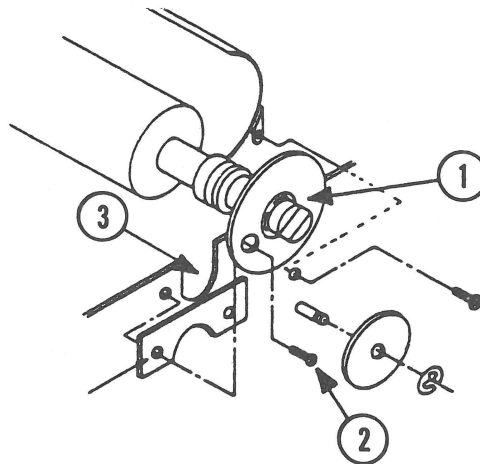
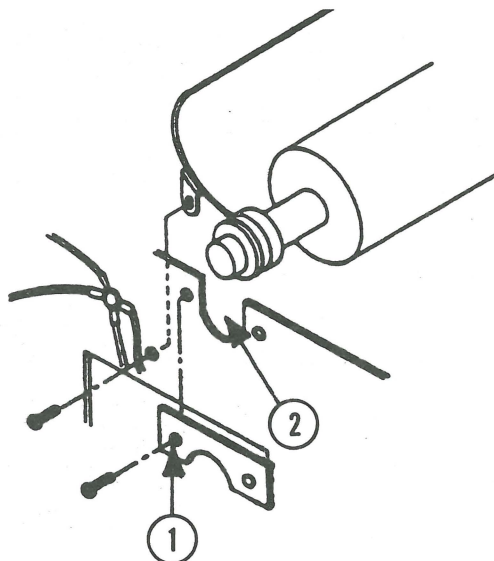

FIGURE 6
FIGURE 7
2. On the right side of the platen, rotate the paper feed gear (Figure 6, #1) until the hole in it lines up with the platen shaft holder screw (Figure 6, #2). Remove the screw and the platen shaft holder.
3. On the left side of the platen, remove the screw from the shaft holder (Figure 7, #1).
1. Slide the platen down into the chassis cutouts (Figure 6, #3 and Figure 7, #2).